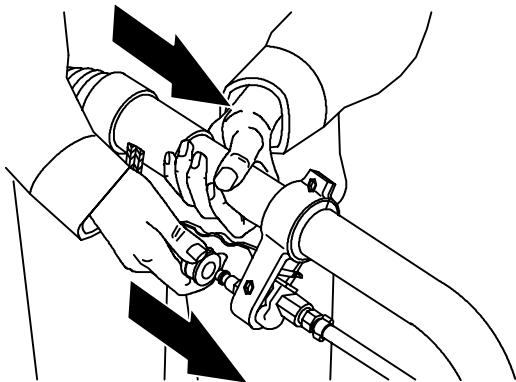

FIG. 38
5. Attach vacuum hose and solution hose to wand (Figure 38).